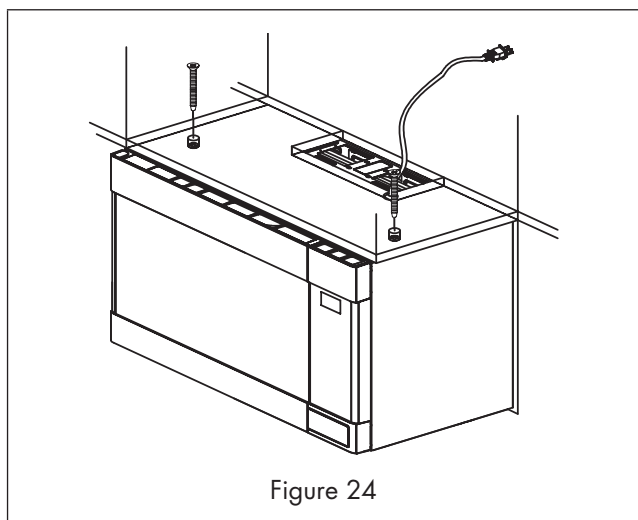

Figure 24
- Tighten the bolts until the gap between the upper cabinet and microwave oven is closed. See Figure 24.